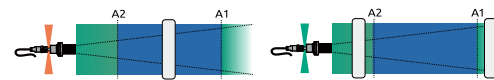

Figure 19 - Trigger on out of range: on approach (S < A2) or on approach (S > A1)
- The output signal toggles when an object is at a certain distance (S) within the configured range. The working principle is shown in Figure 19. When the object is not in or out of the set range, the output turns off. The user range needs to be set during operation: $A1 > A2$.